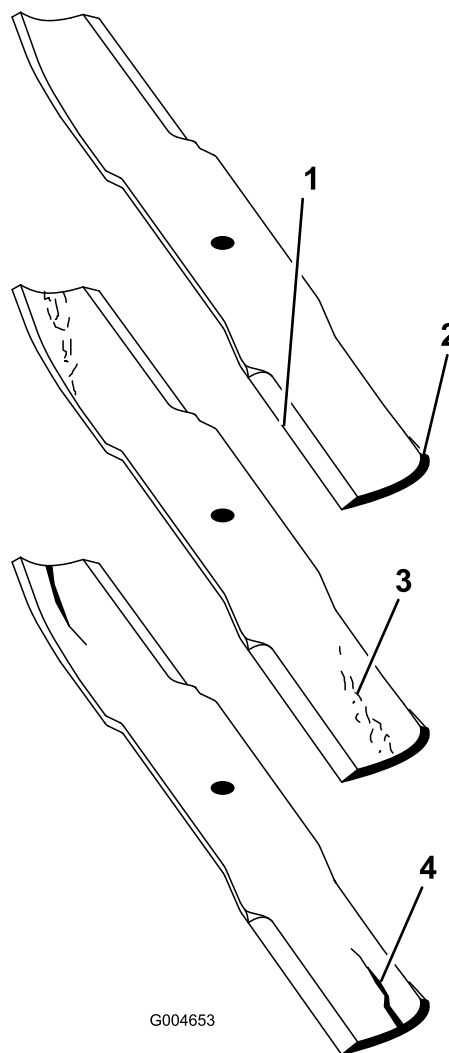

Figure 88
2. Examine the cutting ends of the blade carefully, especially where the flat and curved parts of the blade meet (Figure 88). Since sand and abrasive material can wear away the metal that connects the flat and curved parts of the blade, check the blade before using the mower. If wear is noticed (Figure 88), replace the blade.